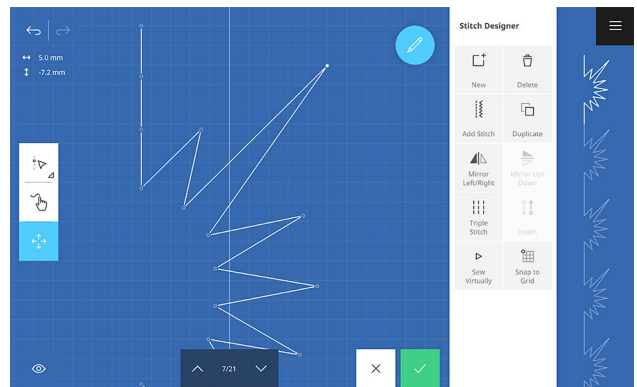

Fig. 28
7. Locate point 7 and drag up to new position (Fig. 28).